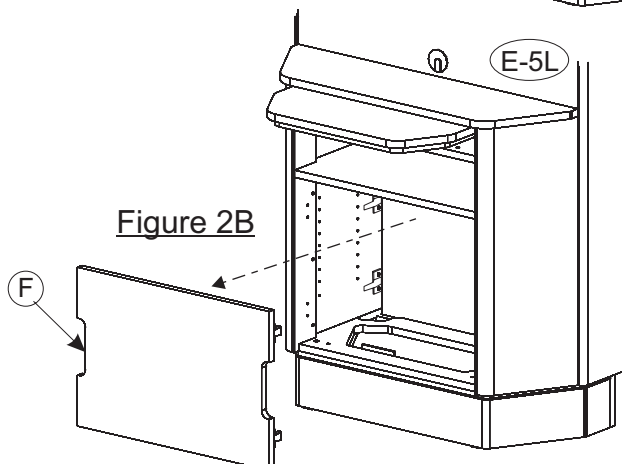

Figure 2B
For E-5L models: Remove Inner Back Panel (F) by pulling back on the panel until the Keku Latches release (see Figure 2B).